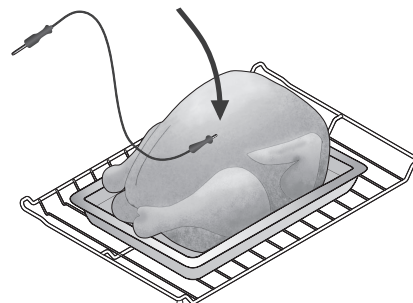

Figure 28: Probe in thickest part breast
- For whole poultry or turkey, fully insert the probe sensor into the thickest part of the breast (See Figure 28).